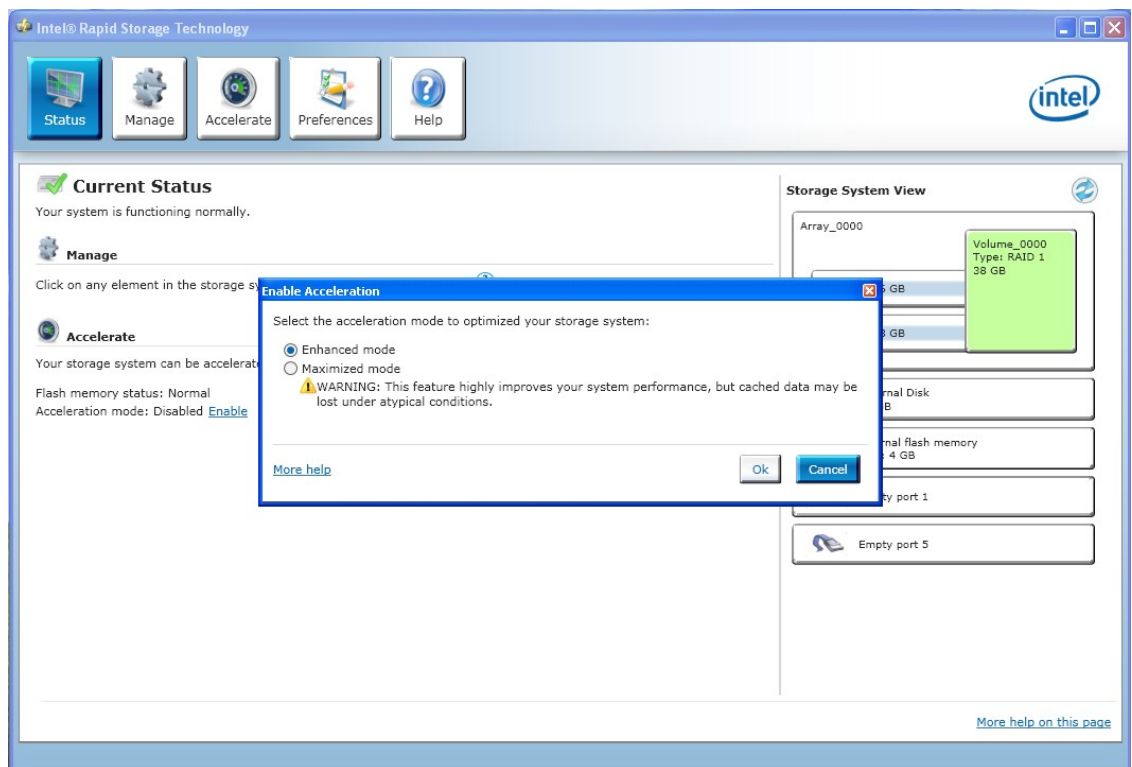

Figure 7: Cache Modes
3. In the Enable Acceleration pop-up box select the desired acceleration mode, either Enhanced Mode or Maximized Mode (see Figure 7: Cache Modes)